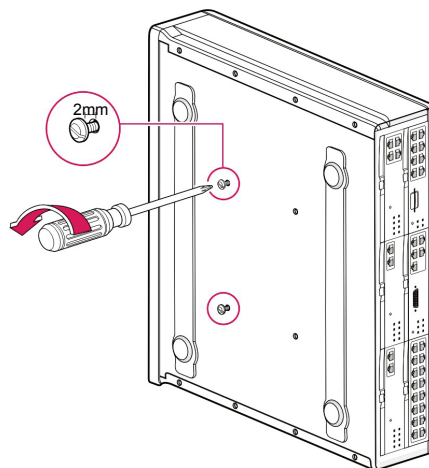

Figure 2.10 Wall Installation (4)
- 5) There are two screws in two of the four holes at the bottom of the OfficeServ 7200-S cabinet as shown below. To install on the wall, loosen the two screws to approximately 2mm as shown in Figure 2.10.